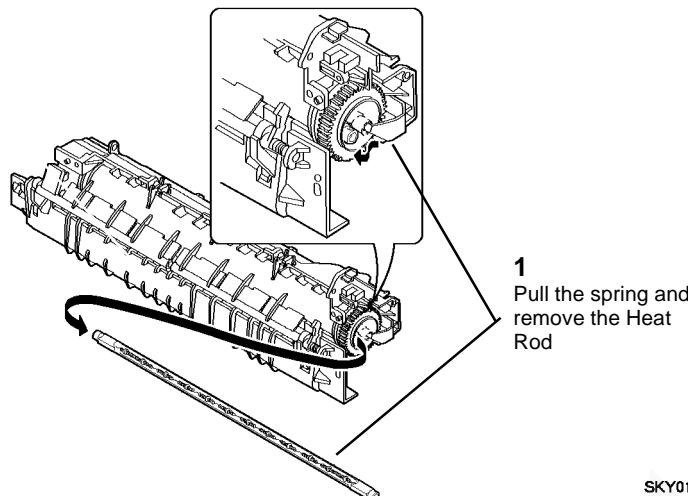

Figure 2 Removing the Heat Rod
6. (Figure 2): Remove the Heat Rod.